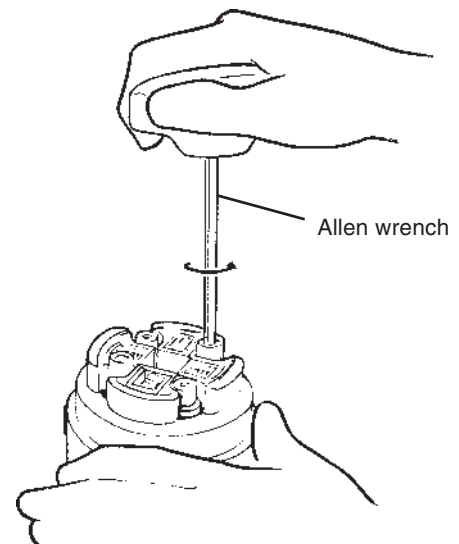

Figure 6.7 Removing the clutch body.
**STEP 4.** Remove the, springs and shoes from the clutch body (Figure 6.7).